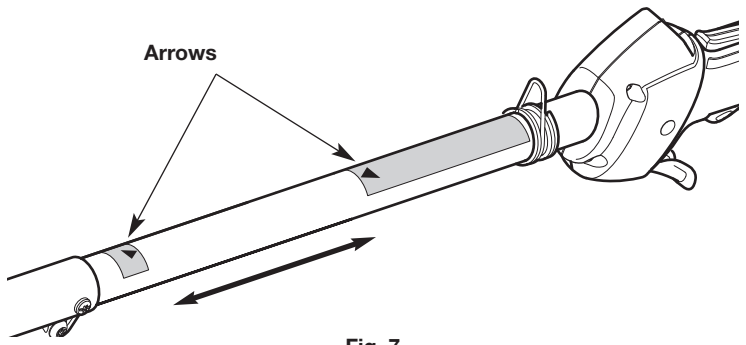
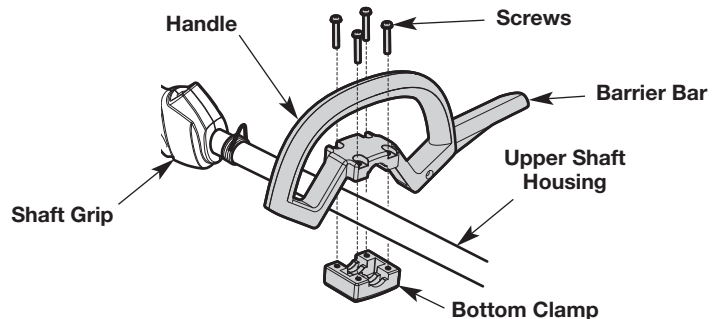

Fig. 7
Fig. 8
1. Use a large flat-head screwdriver or a T-25 Torx screwdriver to remove the four (4) screws and bottom clamp from the handle (Fig. 8).
2. Place the handle onto the top of the upper shaft housing (Fig. 8). Make sure the barrier bar is on the left (Fig. 8) when holding the unit in the operating position (Fig. 17).
4. Insert the four (4) screws through the handle and into the bottom clamp.
6. Hold the unit in the operating position (Fig. 17). Move the handle up or down the upper shaft housing to a comfortable location. Make sure the handle is positioned between the two arrows (Fig. 7).
1. Use a large flat-head screwdriver or a T-25 Torx screwdriver to loosen the 4 screws in the handle (Fig. 8).
2. Hold the unit in the operating position (Fig. 17). Move the handle up or down the upper shaft housing to a comfortable location. Make sure the handle is positioned between the two arrows (Fig. 7).